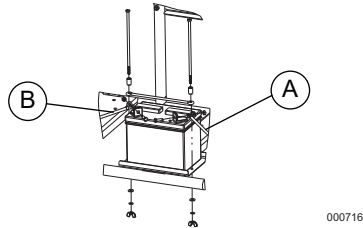

Figure 2-11. Battery Installation
- See Figure 2-11. Install the battery as follows.